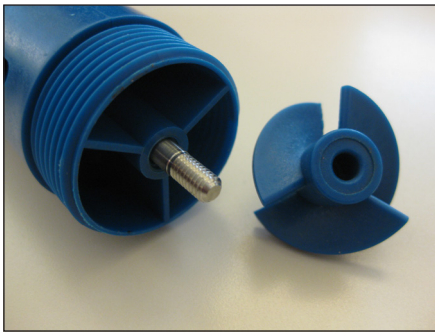
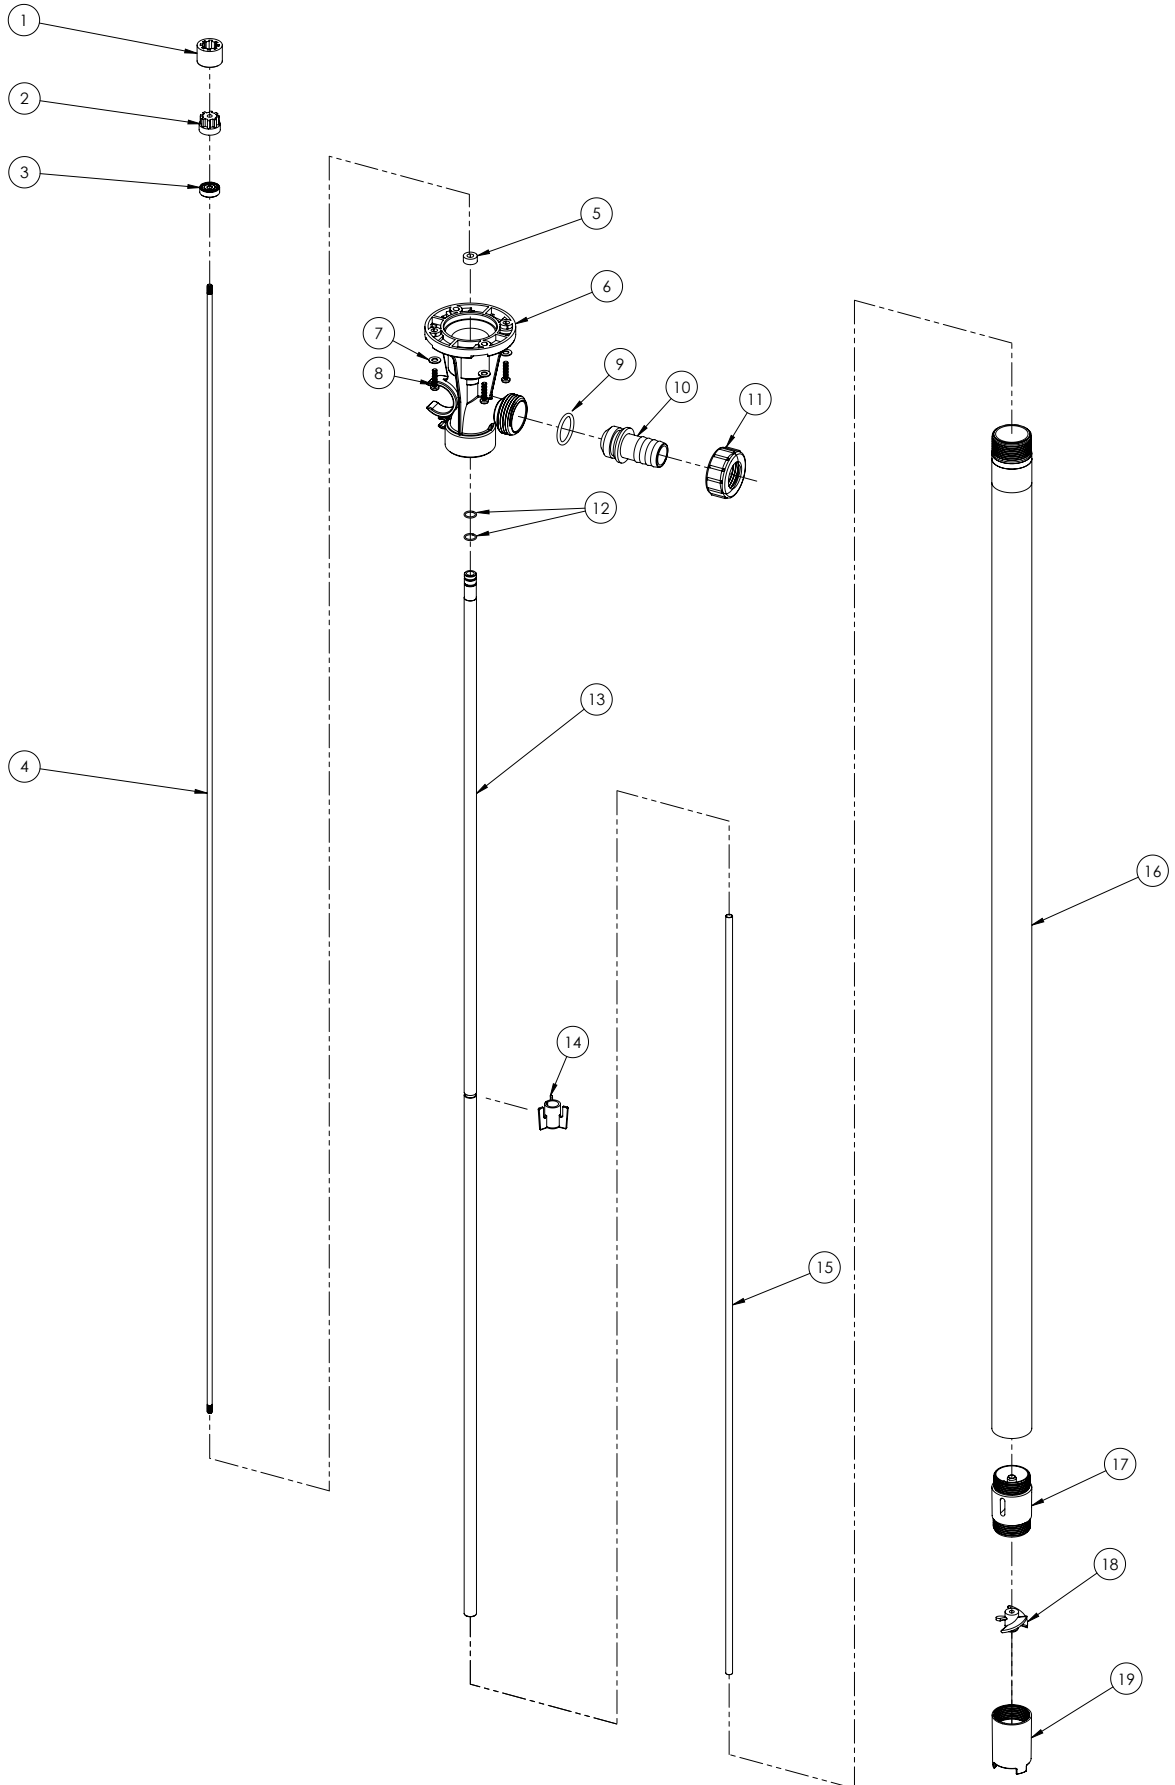

Figure 11
Figure 12
7. Thread the diffuser (item 17) completely onto the bottom of the outer tube (item 16). Hand tighten. Thread the impeller onto the shaft by hand. While holding the half coupling with the other hand, turn the impeller clockwise (right hand thread). See figure 11. Install the diffuser cover (item 19) onto the diffuser turning counter clockwise (left hand thread). Hand Tighten. See Figures 12 & 13.